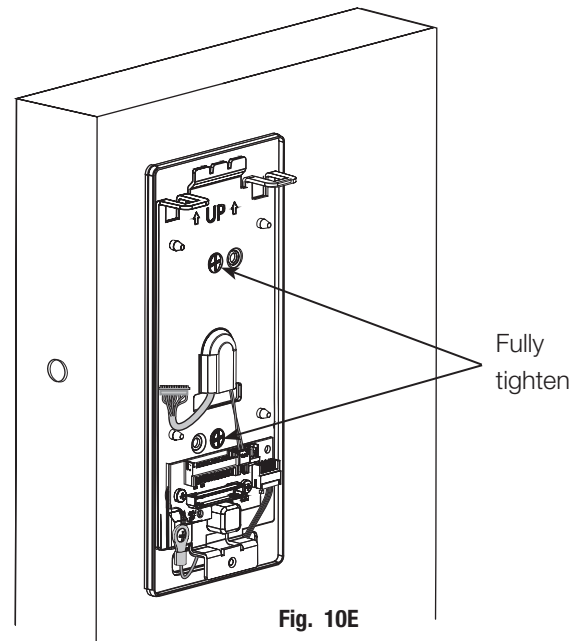

Fig. 10E
- D. Secure the mounting assembly while ensuring proper alignment of outside reader and tighten the (2) through-bolts on the inside of the door to secure the reader (Fig. 10E).